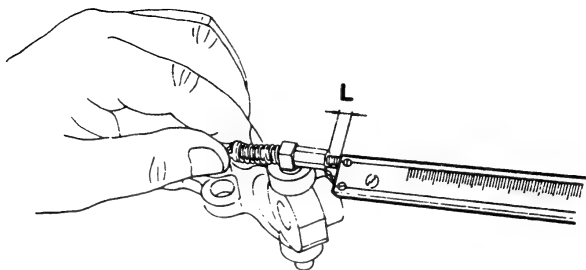

Fig. 125 Measuring the lock screw tip/
8. If the distance between the lock screw tip and the face of the adjusting nut is changed from the original value L , adjust the distance L using the adjusting nut (35/4/3) and lock screw (35/4/4) so that a distance of 3 to 6 mm is maintained. (Fig. 125)